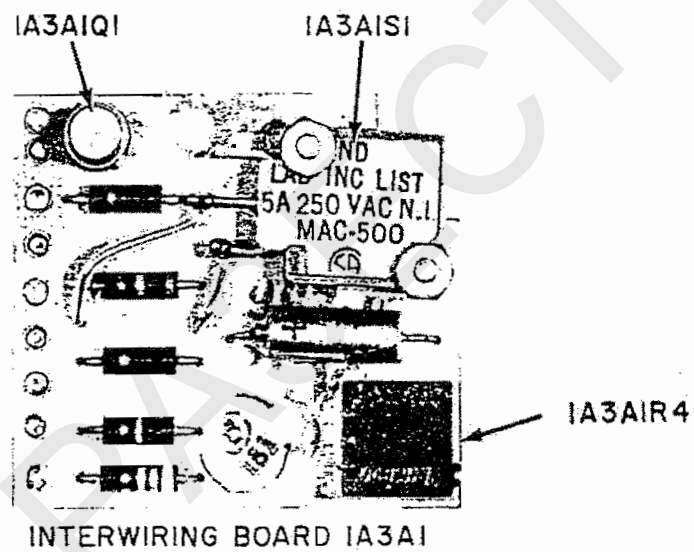

Figure 4-4. Circuit Board Assembly
d. Set the RCVR MODE switch to CAL position with the dial to a noncalibration frequency that is not a 0.5 MHz harmonic. Adjust 1A3A1R4 (figure 4-4) for a BFO frequency of 455 kHz.